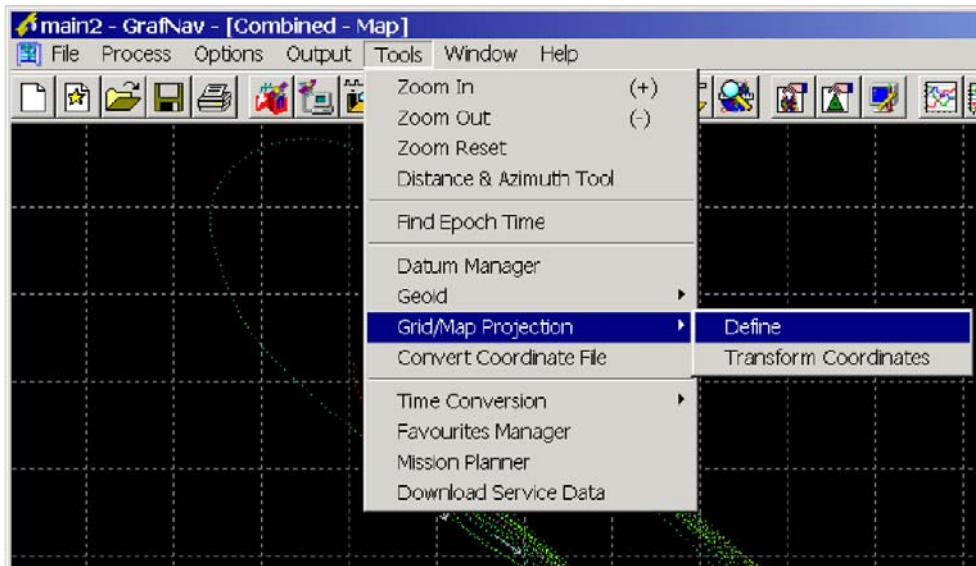

Figure 10.8 Tools Menu
- 1) First we need to define the transformation. This can be done under the 'Tools' menu, select 'Grid/Map Projection' and then 'Define', refer to Figure 10.8.